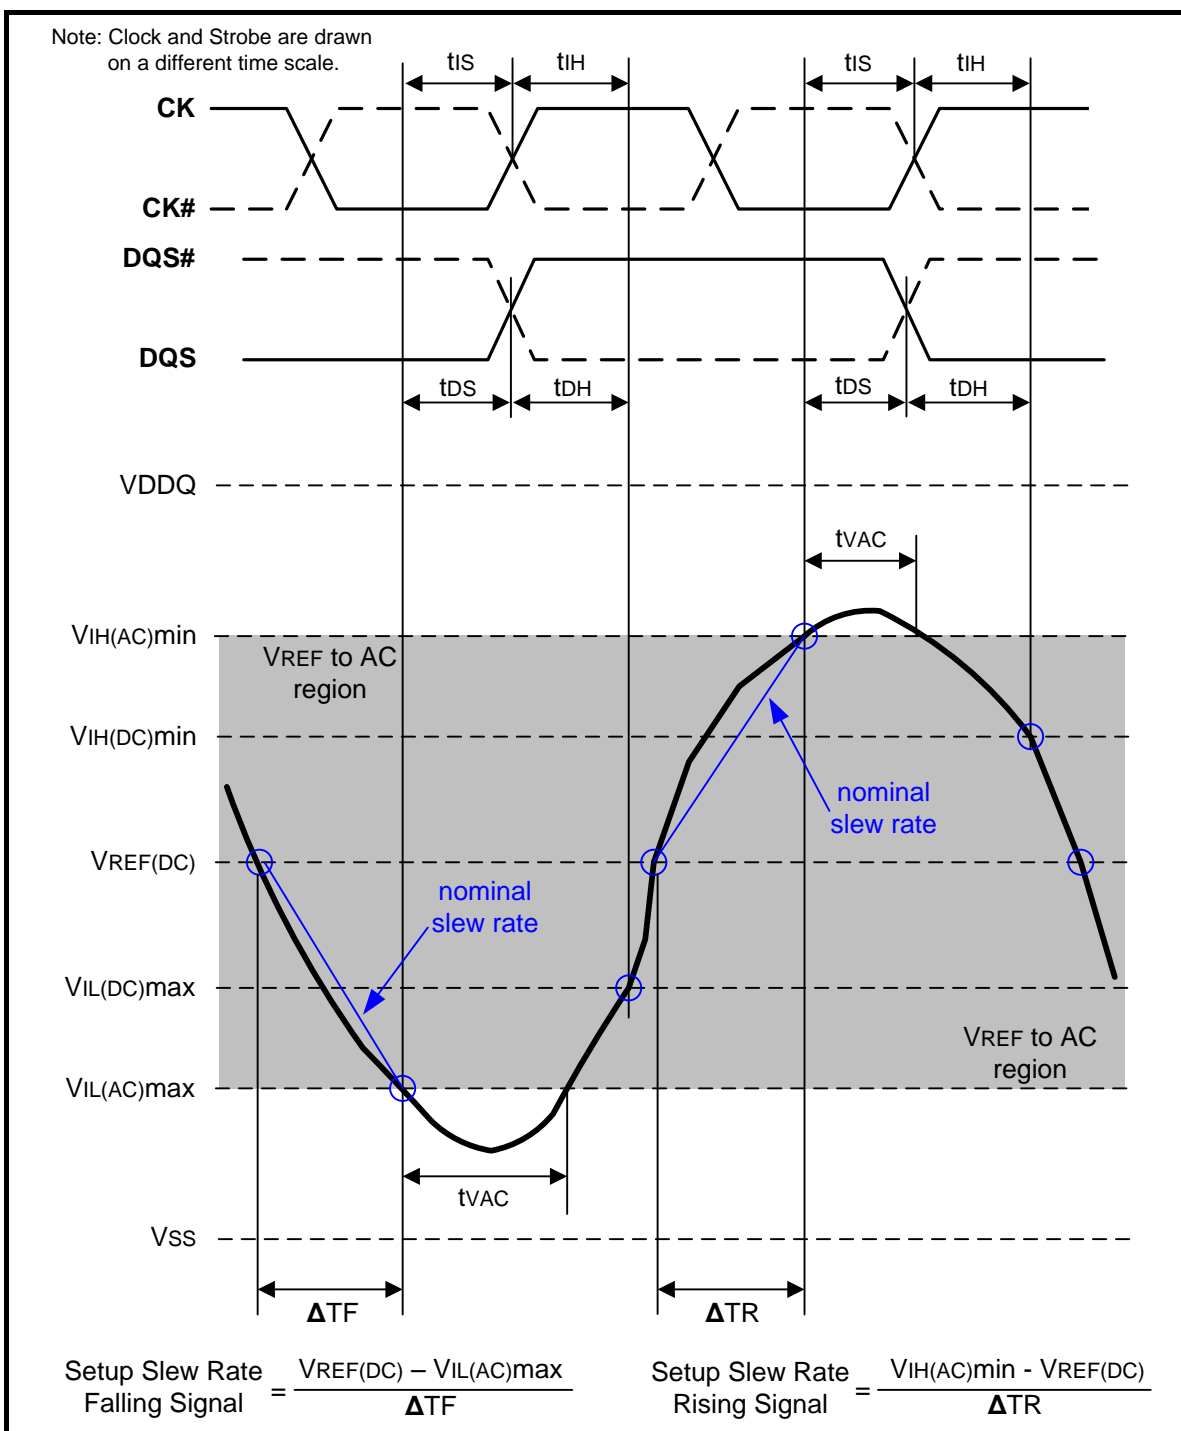

Figure 107 – Illustration of nominal slew rate and tvAC for setup time tDS (for DQ with respect to strobe) and tIS (for ADD/CMD with respect to clock)
Setup (t_{IS}) nominal slew rate for a rising signal is defined as the slew rate between the last crossing of $V_{REF}(\text{DC})$ and the first crossing of $V_{IH}(\text{AC})_{\text{min}}$. Setup (t_{IS}) nominal slew rate for a falling signal is defined as the slew rate between the last crossing of $V_{REF}(\text{DC})$ and the first crossing of $V_{IL}(\text{AC})_{\text{max}}$. If the actual signal is always earlier than the nominal slew rate line between shaded 'VREF(DC) to AC region', use nominal slew rate for derating value (see Figure 107). If the actual signal is later than the nominal slew rate line anywhere between shaded 'VREF(DC) to AC region', the slew rate of a tangent line to the actual signal from the AC level to $V_{REF}(\text{DC})$ level is used for derating value (see Figure 109).
Setup (tDS) nominal slew rate for a rising signal is defined as the slew rate between the last crossing of VREF(DC) and the first crossing of VIH(AC)min. Setup (tDS) nominal slew rate for a falling signal is defined as the slew rate between the last crossing of VREF(DC) and the first crossing of VIL(AC)max (see Figure 107). If the actual signal is always earlier than the nominal slew rate line between shaded 'VREF(DC) to AC region', use nominal slew rate for derating value. If the actual signal is later than the nominal slew rate line anywhere between shaded 'VREF(DC) to AC region', the slew rate of a tangent line to the actual signal from the AC level to VREF(DC) level is used for derating value (see Figure 109).